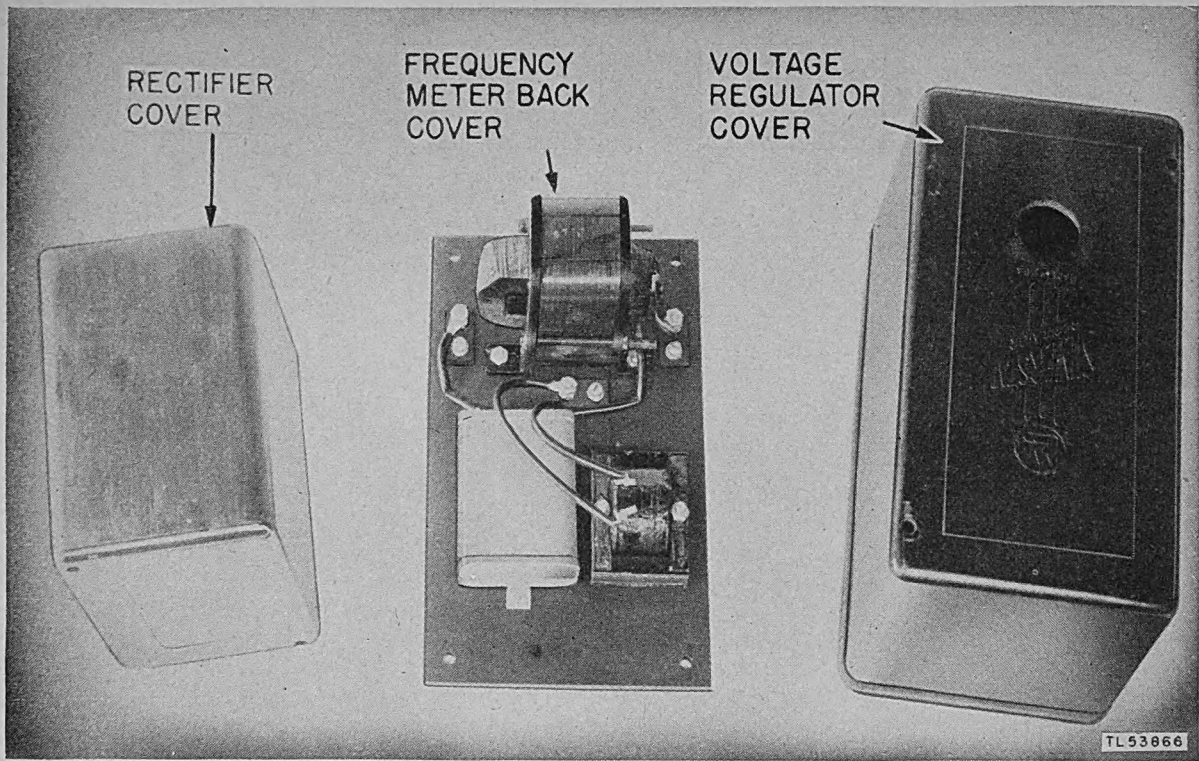

Fig. 16.7. Parts Removed Before Masking.
(1) Remove the two knurled nuts holding the Silverstat voltage regulator cover.
(2) Remove the cover from the voltage regulator. (See figs. 16.7 and 16.8.)
(3) Remove the back cover and attached components from the frequency meter control frame.
(4) Remove the cover from the rectifier. (See figs. 16.7 and 16.8.)